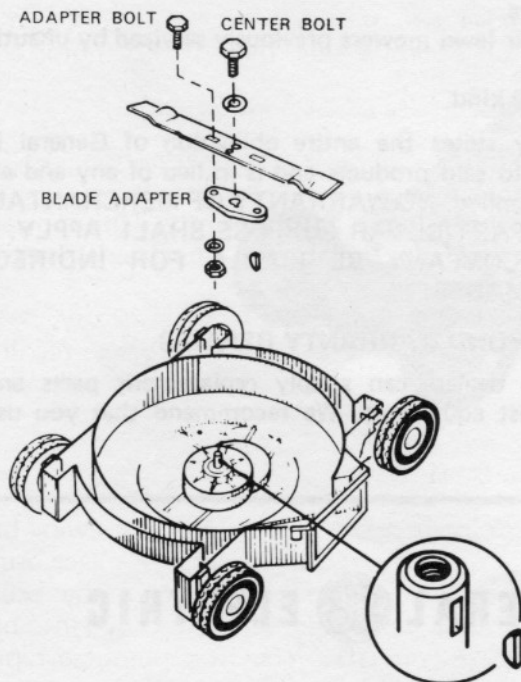

Figure 11
A sharp blade will cut cleanly and give a better appearance to the lawn. To remove blade for sharpening, disconnect cord from mower. Lay mower on side. Remove center blade bolt with 9/16-inch wrench. (Figure 11) It is not necessary to remove the adapter bolts except when changing blade. Sharpen blade with file, grinder or AP20 Blade Sharpener which will retain the original cutting angle. Replace blade exactly as shown in Figure 11. Make sure blade is tight.
5. Remove blade, blade adapter and drive key from shaft. (Figure 11)